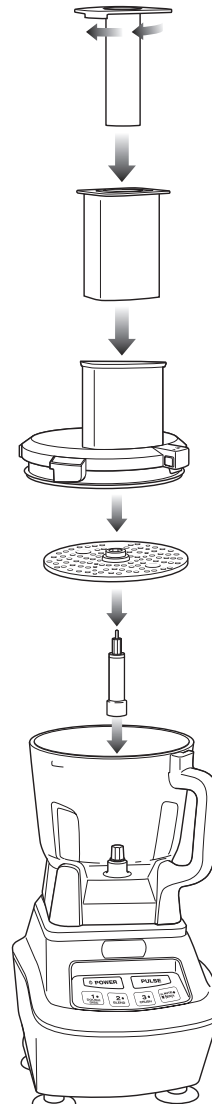

Fig. 6
- 2 Place the motor base on a clean, dry, level surface such as a counter or table top. **(Fig. 6)**
- 6 Place the feed chute lid on the bowl and turn clockwise until you here a click indicating the lid is locked in place. **(Fig. 6)**
- 9 Add the food that you want to slice, shred or grate through the feed chute on the lid. **(Fig. 6)** Use the two-part food pusher to help guide the food through the feed chute. The middle piece of the food pusher is removable to use for smaller ingredients.